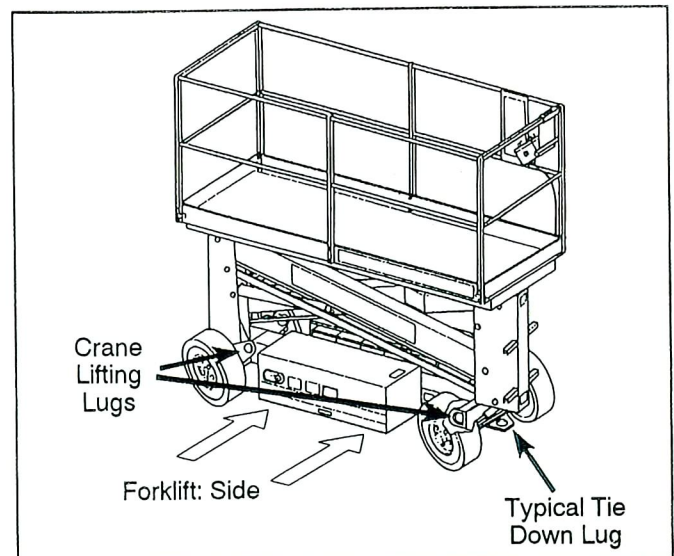

Figure 4: Transporting Work Platform
Forklift from the side by lifting under Chassis Modules (Figure 4).
2. Secure the work platform to the transport vehicle with chains or straps of adequate load capacity attached to the chassis tie down lugs (Figure 4).
2. Secure straps to Chassis Lifting Lugs only (Figure 4).